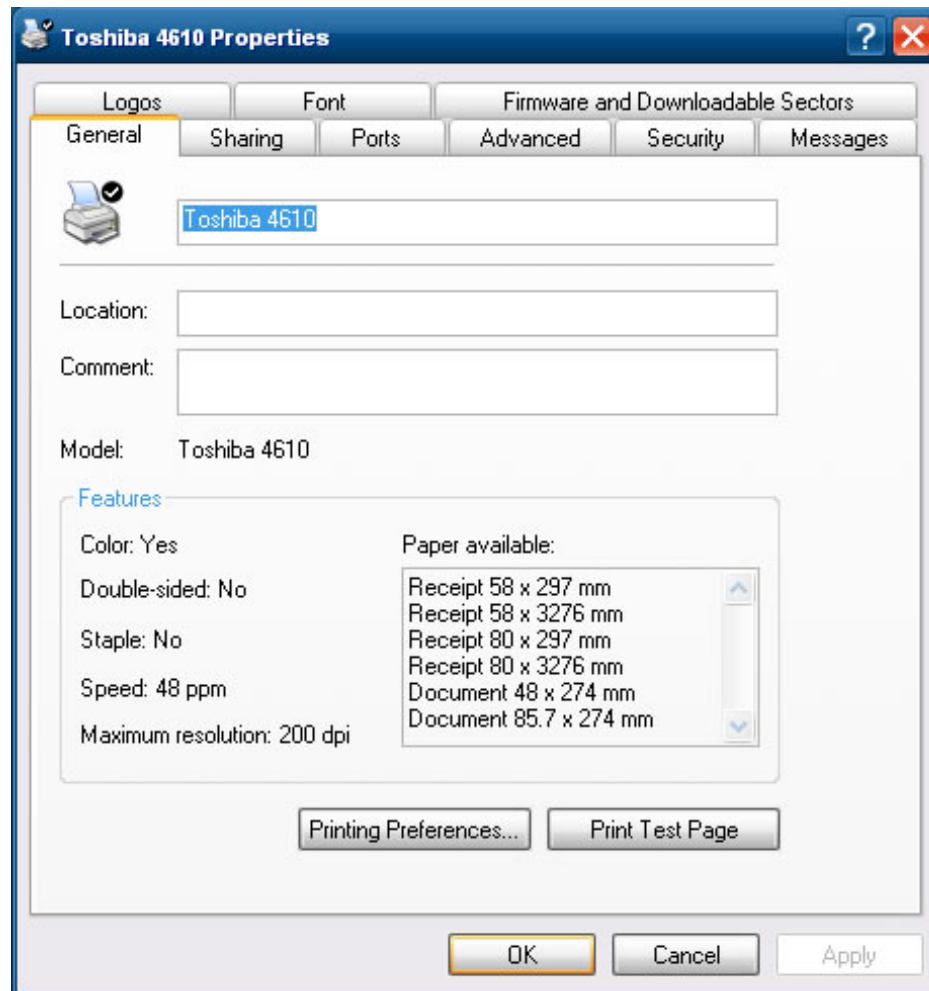

Figure 53. The Toshiba 4610 Properties window
2. Right-click the **Toshiba 4610 icon** and select **Properties**. The Toshiba 4610 Properties window opens with the **General** tab selected. See Figure 53.